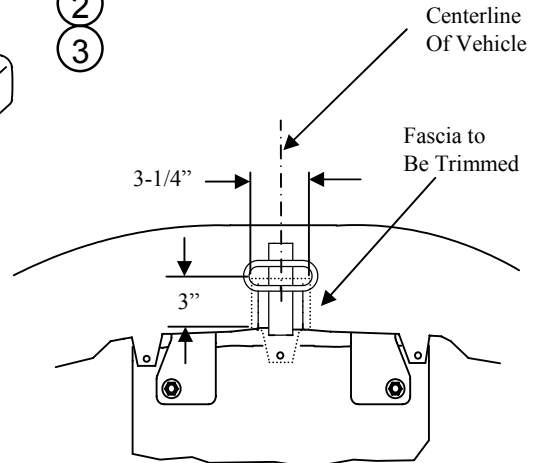

Figure 2
①	Qty. (4)	Carriage Bolt 1/2-13 x 4.50 Gr2	⑤	Qty. (2)	Spacer Block, 1/4 x 2 x 2
②	Qty. (2)	Top Plate, 2.00 x 4.50 w/Square holes	⑥	Qty. (2)	Conical toothed washer, 1/2
③	Qty. (4)	Flanged Lock Nut, 1/2-13	⑦	Qty. (2)	Hex nut, 1/2-13
④	Qty. (2)	Carriage Bolt 1/2-13 x 1.75 Gr5
- Remove the three (3) screws holding the plastic bumper fascia to the bottom of the trunk pan.
- Remove the two (2) rearmost plastic drain plugs from the bottom of trunk pan.
- Cut a notch in the lower part of the plastic fascia, approximately 3-1/4" wide x 3" deep, centered on vehicle, as shown in figure 2.